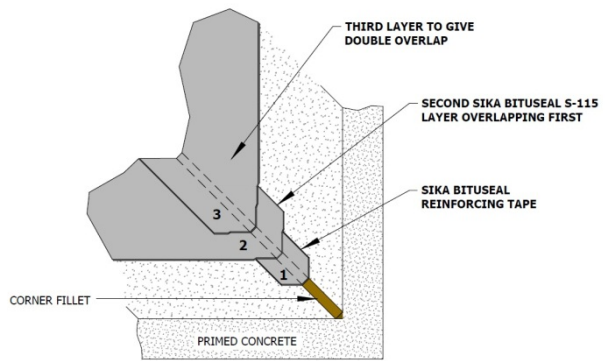

FIG. 10
- iii) At a bottom angle or corner the vertical membrane should overlap onto the horizontal. (See fig. 10).